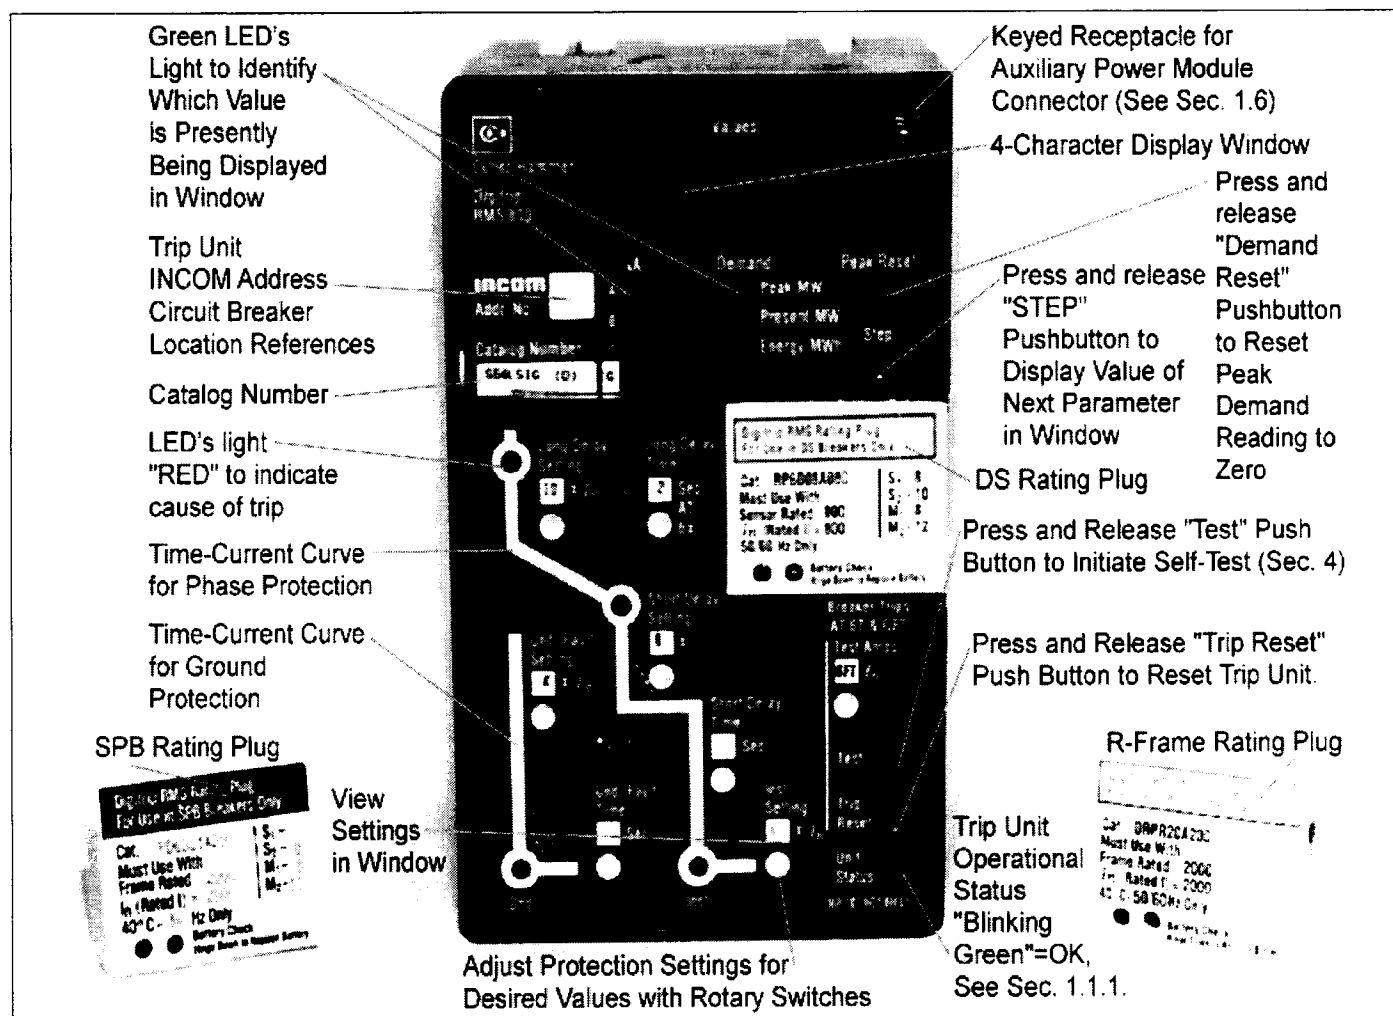

Fig. 1 Digitrip RMS 810 Trip Unit Type LSIG with Rating Plug
The Digitrip RMS 810, illustrated in Fig. 1, is a Trip Unit, suitable for use in types DS and DSL Low-Voltage AC power circuit breakers and type SPB Systems Pow-R circuit breakers and Series C R-Frame molded case circuit breakers. The Digitrip RMS 810 Trip Unit provides five basic functions:
The "Green" Light Emitting Diode (LED) in the lower right corner of the Trip Unit (Fig. 1) "blinks" once each second to indicate the Trip Unit is operating normally.
The LEDs, shown in Figs. 1 and 3.1 thru 3.6 on the face of the Trip Unit, light "RED" to indicate the reason for any automatic trip operation. As indicated in Figs. 3.1 - 3.6, each LED is strategically located in the related segment of the time-current curve depicted on the face of the Trip Unit. The reason for trip is identified by the segment of the time-current curve where the LED is lighted "RED", and shown by the "code" in the Display. Following an automatic protection trip operation, the external control power to the Power/Relay Module (see Section 1.4) will maintain the LED "RED" and will **continue** to send a **TRIP** signal to **LOCKOUT** the circuit breaker until the Trip Unit is **RESET**. The Digitrip RMS 810 Trip Unit can be **RESET** in two ways:
- either press and release the "**TRIP RESET**" button (See Fig. 1 lower right corner just above the "UNIT STATUS" LED.),
In the event that control power is lost, the back-up battery in the Rating Plug (see Section 1.3 and Figs. 1 and 4) continues to supply power to the LEDs. To check the status of the battery, see Section 4.5.
Press and release the "TRIP RESET" push-button shown in Fig. 1, to turn "Off" the LEDs following a trip operation.
AFTER EACH TRIP OPERATION (WHETHER DUE TO OVER-CURRENT PROTECTION OR REMOTE CONTROL) THE AUTOMATIC LOCKOUT-AFTER-TRIP FEATURE OF THE DIGITRIP RMS 810 TRIP UNIT MAINTAINS THE CIRCUIT BREAKER IN A "TRIP-FREE" CONDITION, PROVIDED 120 VAC CONTROL POWER REMAINS AVAILABLE TO THE POWER / RELAY MODULE. THE TRIP UNIT MUST BE RESET, BEFORE THE CIRCUIT BREAKER CAN BE CLOSED AGAIN. THE RESET CAN BE ACCOMPLISHED EITHER LOCALLY BY PRESSING AND RELEASING THE "TRIP RESET" PUSH BUTTON (SEE FIG. 1), OR REMOTELY BY THE IMPACC SYSTEM. (SEE SECTION 5.9.)